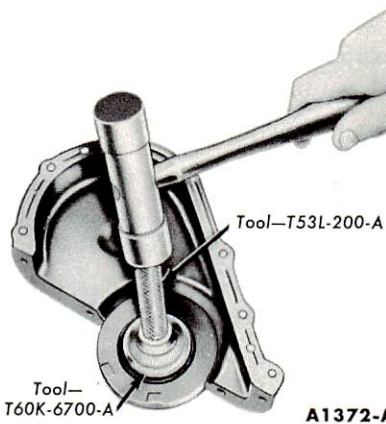

FIG. 23—Crankshaft Front Oil Seal Replacement
2. Coat a new seal with grease and install the seal (Fig. 23). Drive the seal in until it is fully seated in the recess. Check the seal after installation to be sure the spring is properly positioned in the seal.